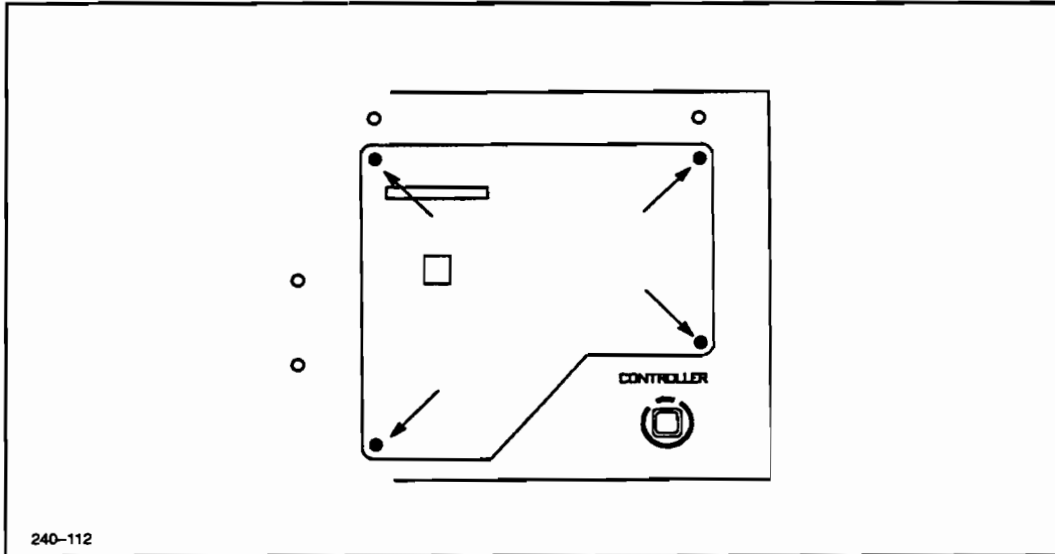

Figure 6-30. Controller Panel Mounting Screws
4. Using a #1 Phillips screwdriver, remove the four controller panel mounting screws. See Figure 6-30.
If replacing CB3, remove the four controller panel mounting screws. See Figure 6-30.